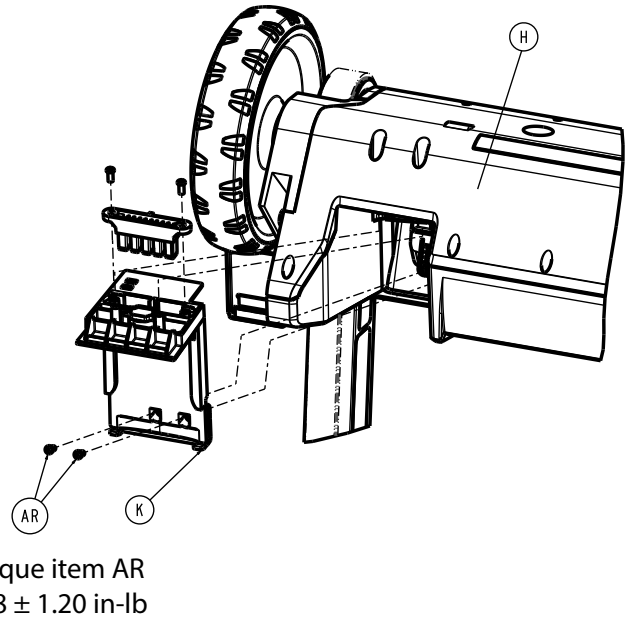

Figure 5 –
6. Using a T15 Torx driver, remove the two pan head thread forming screws (AR) that secure the battery housing assembly (K) to the power box upper cover (H) (Figure 5). Save the battery housing assembly and the screws.